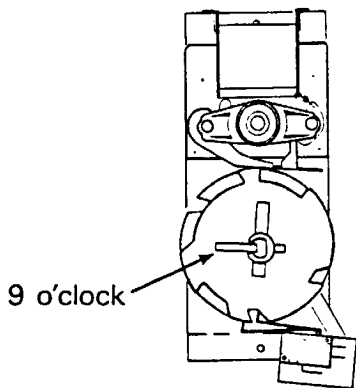

Figure 7
4. Install the vending cam onto the front shaft of the motor making sure the lock tab is at the 9 o'clock position. See Fig 7.